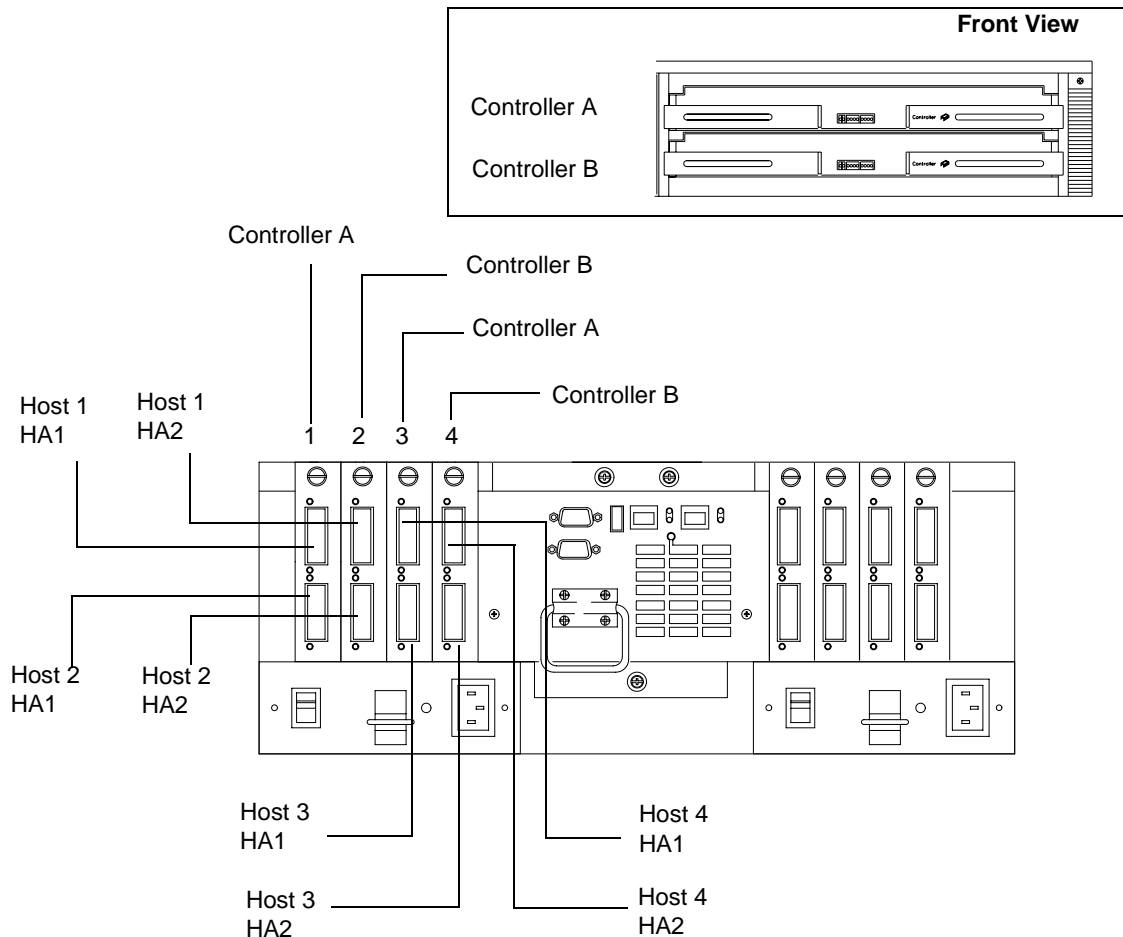

Figure 23. Connecting hosts directly to the controller
- 1** Connect the first host (Host 1) to the controller unit, as shown in Figure 23 on page 36.
- 2** Connect a second host (Host 2) to the controller unit, as shown in Figure 23 on page 36.
- 3** Connect a third host (Host 3) to the controller unit, as shown in Figure 23 on page 36.
- 4** Connect a fourth host (Host 4) to the controller unit, as shown in Figure 23 on page 36.